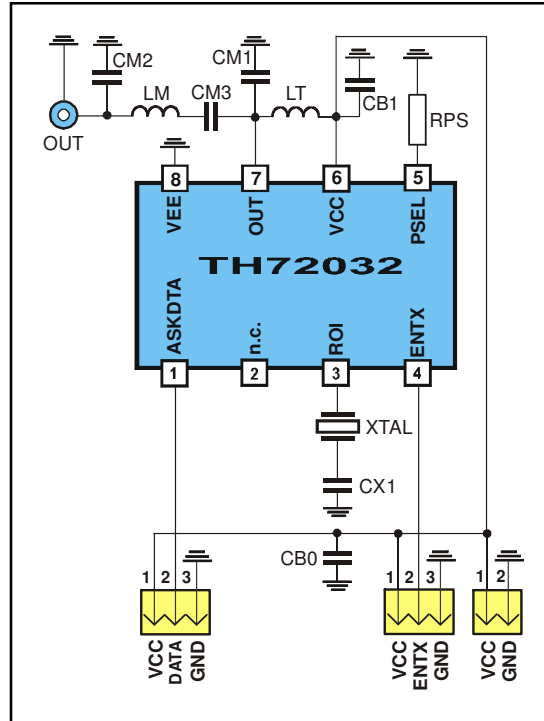

Fig. 17: Test circuit for ASK with 50  $\Omega$  matching network
typical values at  $T_A = 23\text{ }^\circ\text{C}$  and  $V_{CC} = 3\text{ V}$ ; test circuit shown in Fig. 17,  $f_c = 868.3\text{ MHz}$
- Data according to test circuit in Fig. 17 (868.3MHz)
### 6.1 Test circuit component list to Fig. 17